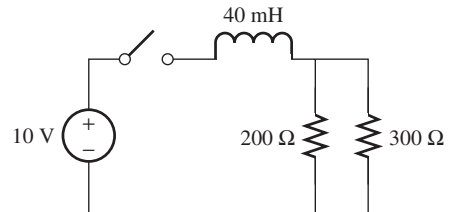

FIGURE P5.23 Circuit for Problem 5.23.
5.23 (B) Find the current flow through both resistor at $t(0)$ and $t(\infty)$ in the circuit shown in Figure P5.23. Assume that the switch closed at $t = 0$.